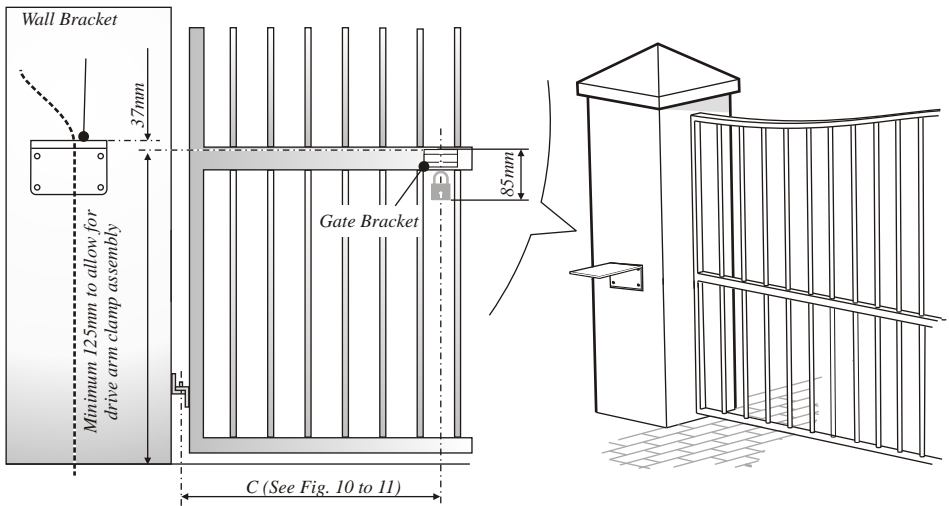

Figure 12 Determine the Position of the Gate Bracket and Pedestal or Wall Bracket
3. Determine the vertical height of the pedestal or wall bracket to be 37mm above the gate bracket as in Fig. 12.
4. If installing a pedestal, prepare a square hole for the pedestal foundation according to Fig. 12 at the predetermined position.
5. Locate a suitable place for mounting the gate bracket according to dimension "C" as shown in Fig. 12
6. Determine the height of the bracket above ground by taking into account drive arm clearance and ground clearance for the padlock. (See Fig. 12). Once correctly located, weld or screw the gate bracket to the gate using the two M4 screws provided.
8. Securely concrete the pedestal into position making sure that it is vertical, and at the correct height relative to the gate bracket, as shown in Fig. 12. Allow concrete sufficient time to cure.